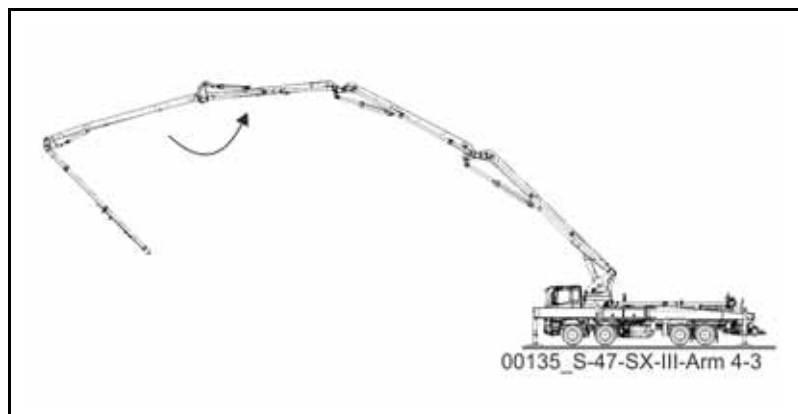

Fig. 272
- Fold placing boom section 4 completely onto placing boom section 3 (**Fig. 272**)